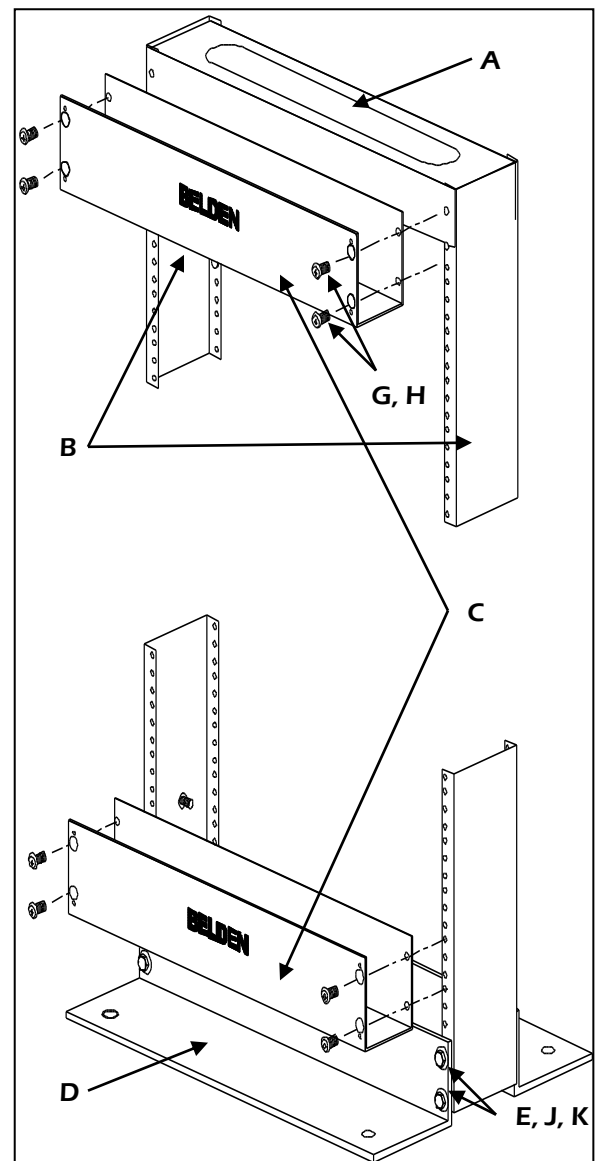

Figure 2
4. Using 8 each of the #10-32 (23-in, Item G) or #12-24 (19-in, Item H) x 1/2" Pan head screws, attach Item A to Item B at the top of the rack. See Figure 2.
13. Assemble the top Horizontal Trough (Item C) onto the #10-32 or #12-24 hardware and tighten. See Figure 2.